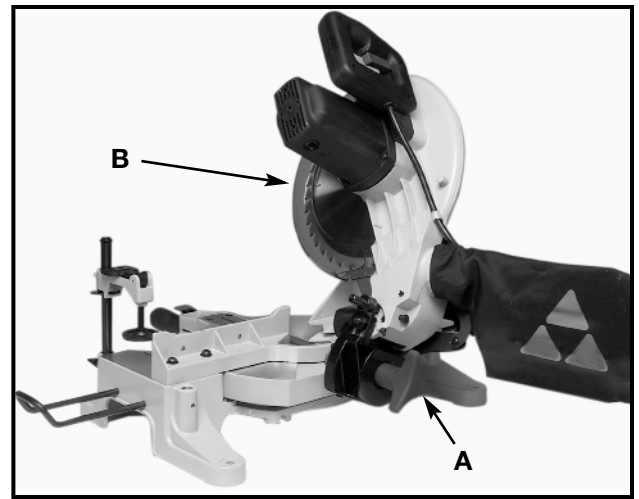

Fig. 18
2. The cuttinghead of your compound miter saw can be tilted to cut any bevel angle from a 90° straight cut-off to a 45° left bevel angle. Loosen bevel lock handle (A) Fig. 18, tilt cuttinghead (B) to the desired angle, and tightening lock handle (A).